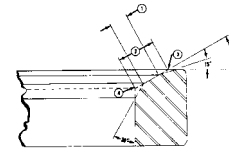

Figure 16D-6. Valve Seat Cross-Section.
2. If the seat area width (2), Figure 16D-6, exceeds 0.100 inch (2.54 mm) at any point and cannot be narrowed sufficiently (1) during regrinding, the valve should be marked for replacement.